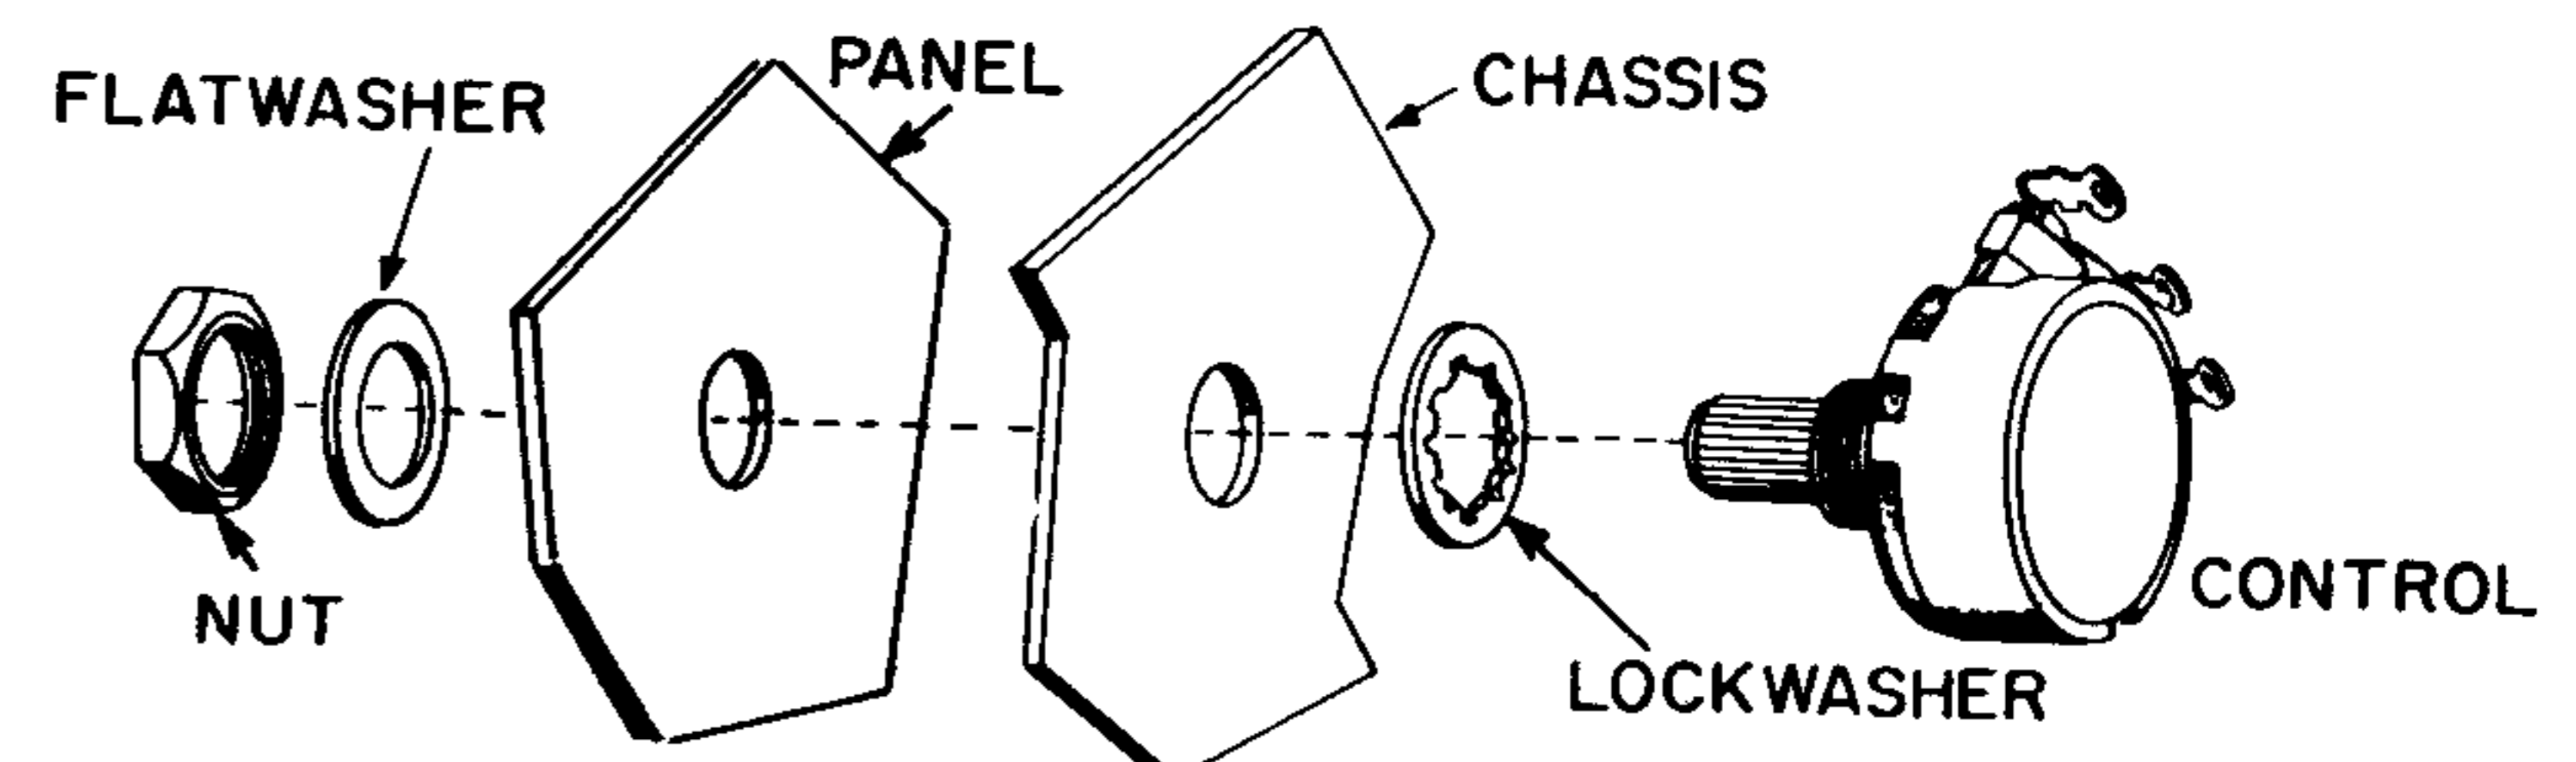
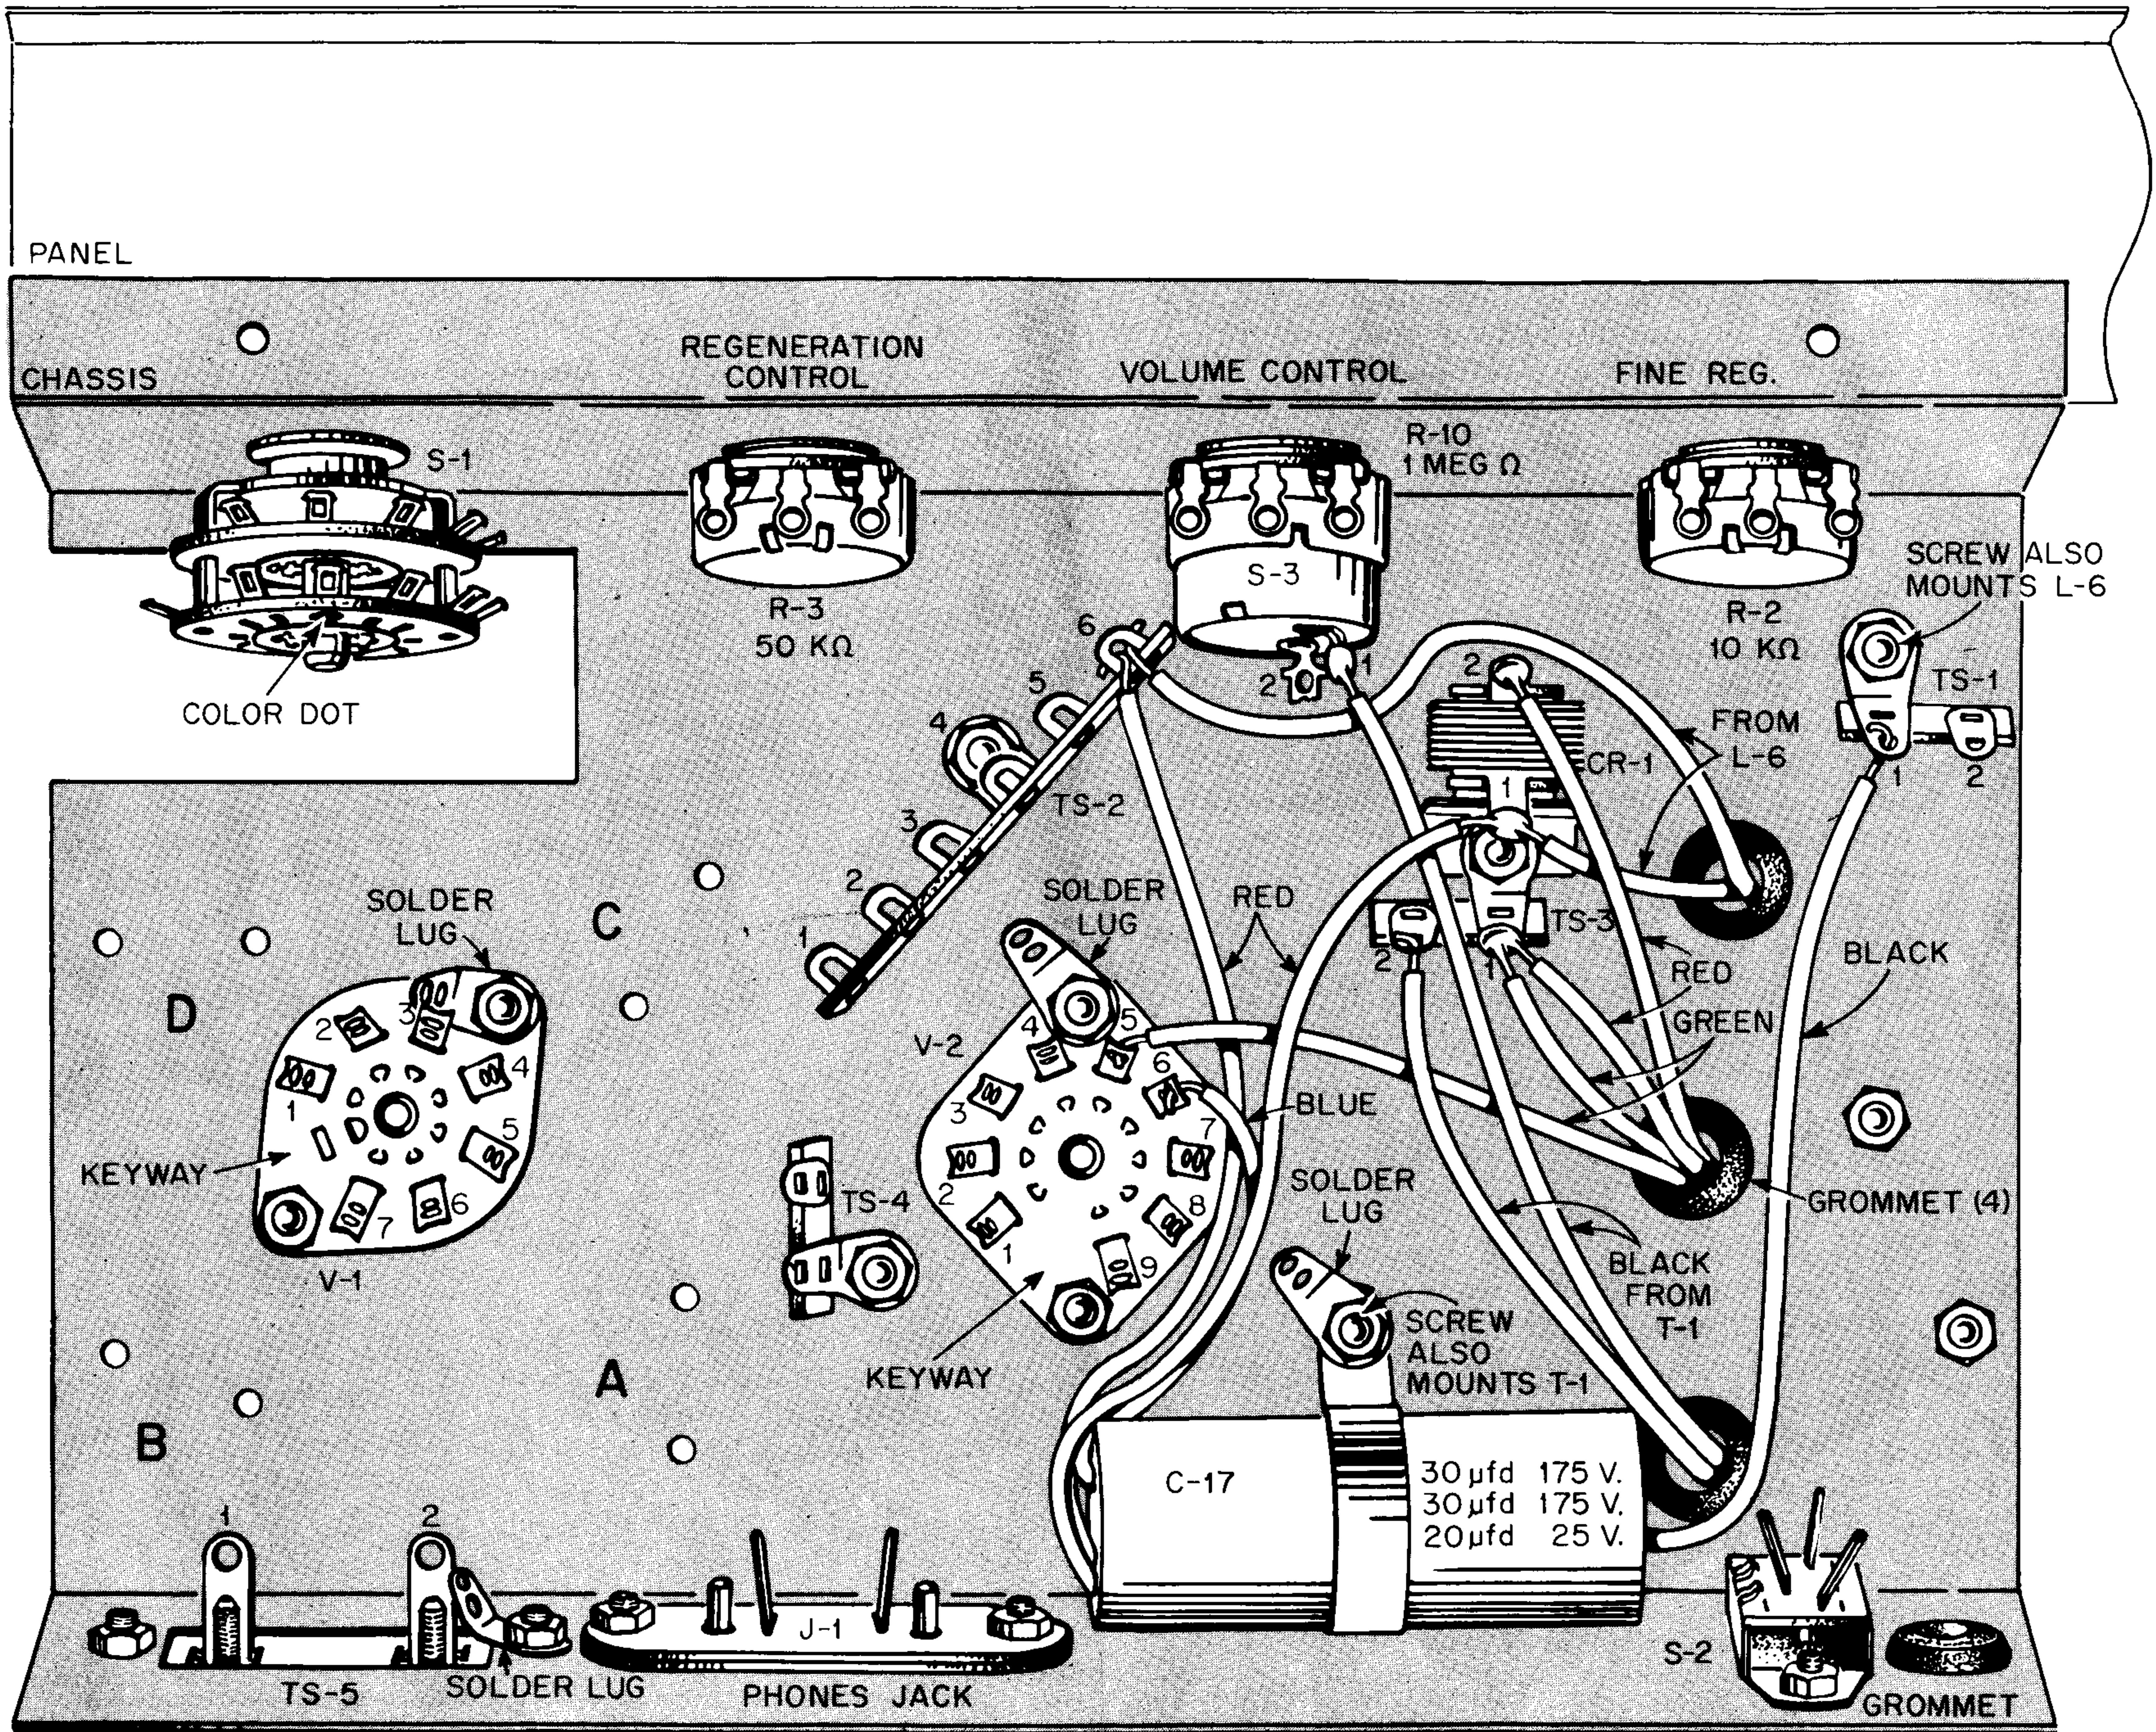

FIGURE 2. HOW TO MOUNT A CONTROL
FIGURE 3. FIRST PARTS MOUNTING AND WIRING VIEW
SEE FIGURE 3.
- Mount S-1, the BAND SWITCH, as shown in Figure 2. Position the color dot as shown in Figure 3. Notice that first a lockwasher is slipped over the shaft of S-1. Then the shaft is pushed through the chassis and the panel. From outside the panel, a flat washer and nut are slipped on the shaft and tightened.
AS SHOWN IN FIGURE 2: